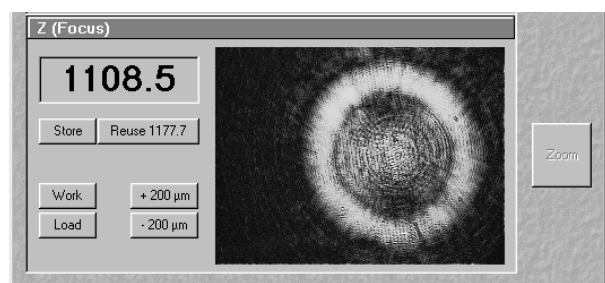

Fig. 3-36 Lower cover slip surface
- Continue cautiously moving upwards. If the camera image looks like (Fig. 3-36), you are close to the lower cover slip surface.